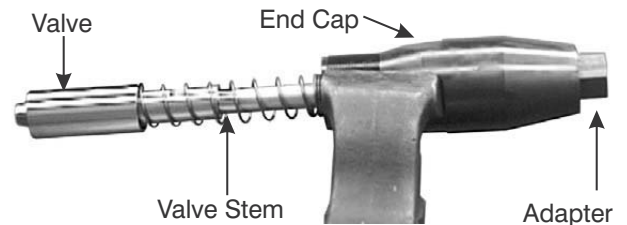

Figure 9-19. Valve Stem and Adapter
5. Thread the Adapter onto the Valve Stem (5) and hand tighten. See Figure 9-19